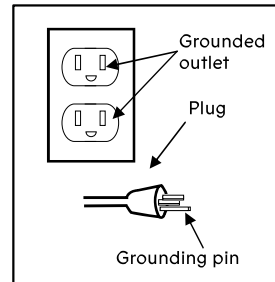

Figure 1
- J. POWER CORD:** This product is for use on a nominal 120-volt circuit and should be grounded. A cord with a grounding plug must be used. Make sure the product is connected to an outlet having the same configuration as the plug (see Figure 1). No adapter should be used with this product.